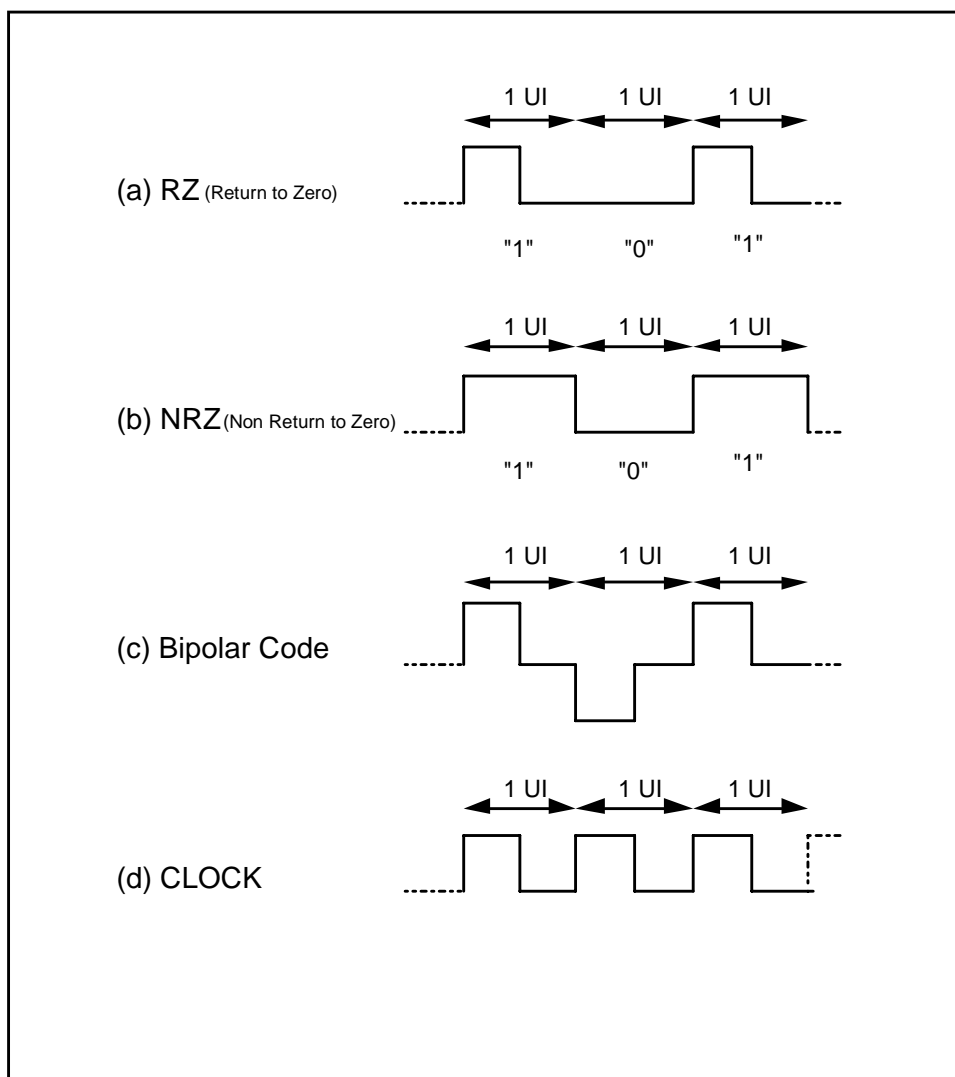
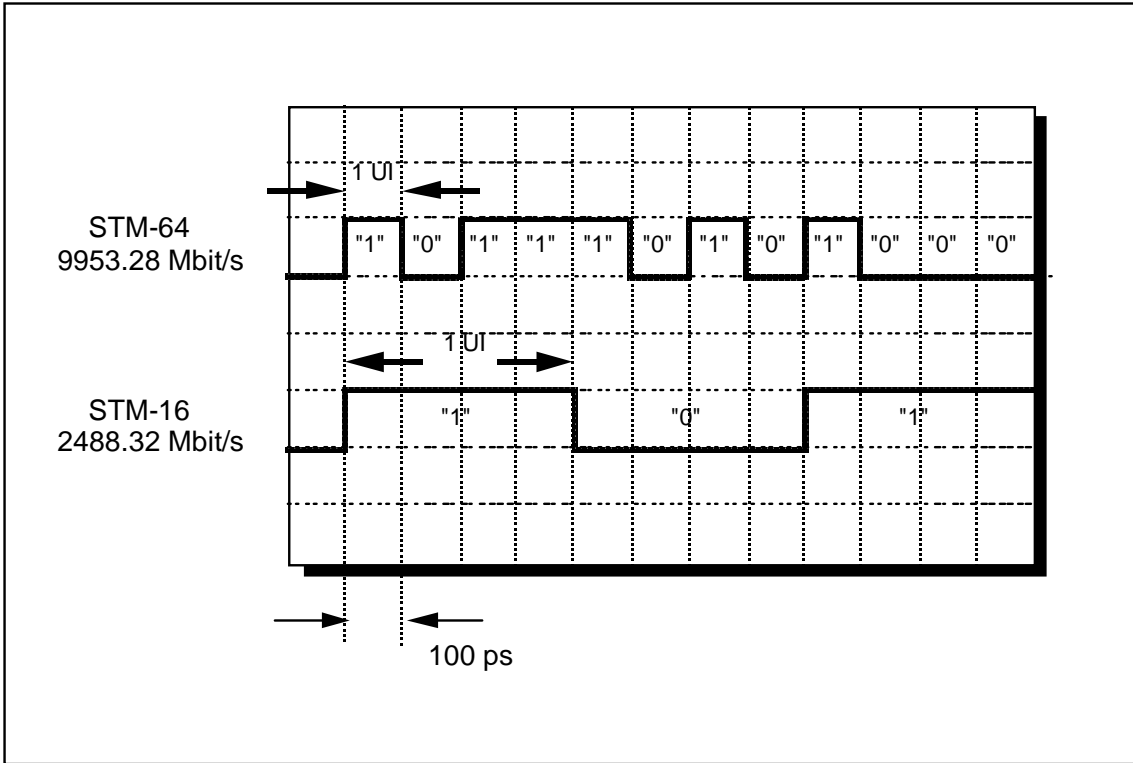

Figure 2-4 Unit of jitter (1)
Figure 2-5 Unit of jitter (2)
Jitter is the phase change of a digital signal, and the quantity of jitter is an index for evaluating the transmission quality. All transmission codes require a common unit. Unit Interval (UI) is used as a unit that indicates the jitter amplitude. One UI is defined as one cycle of bit clock (see Figure 2-4). Two types of units: UIpp (peak to peak of phase change width) and UIrms (effective value of phase change width) are actually used. Since these units are standardization parameters that are bit rate independent, the quantity of jitter can be compared at different bit rates (see Figure 2-5).